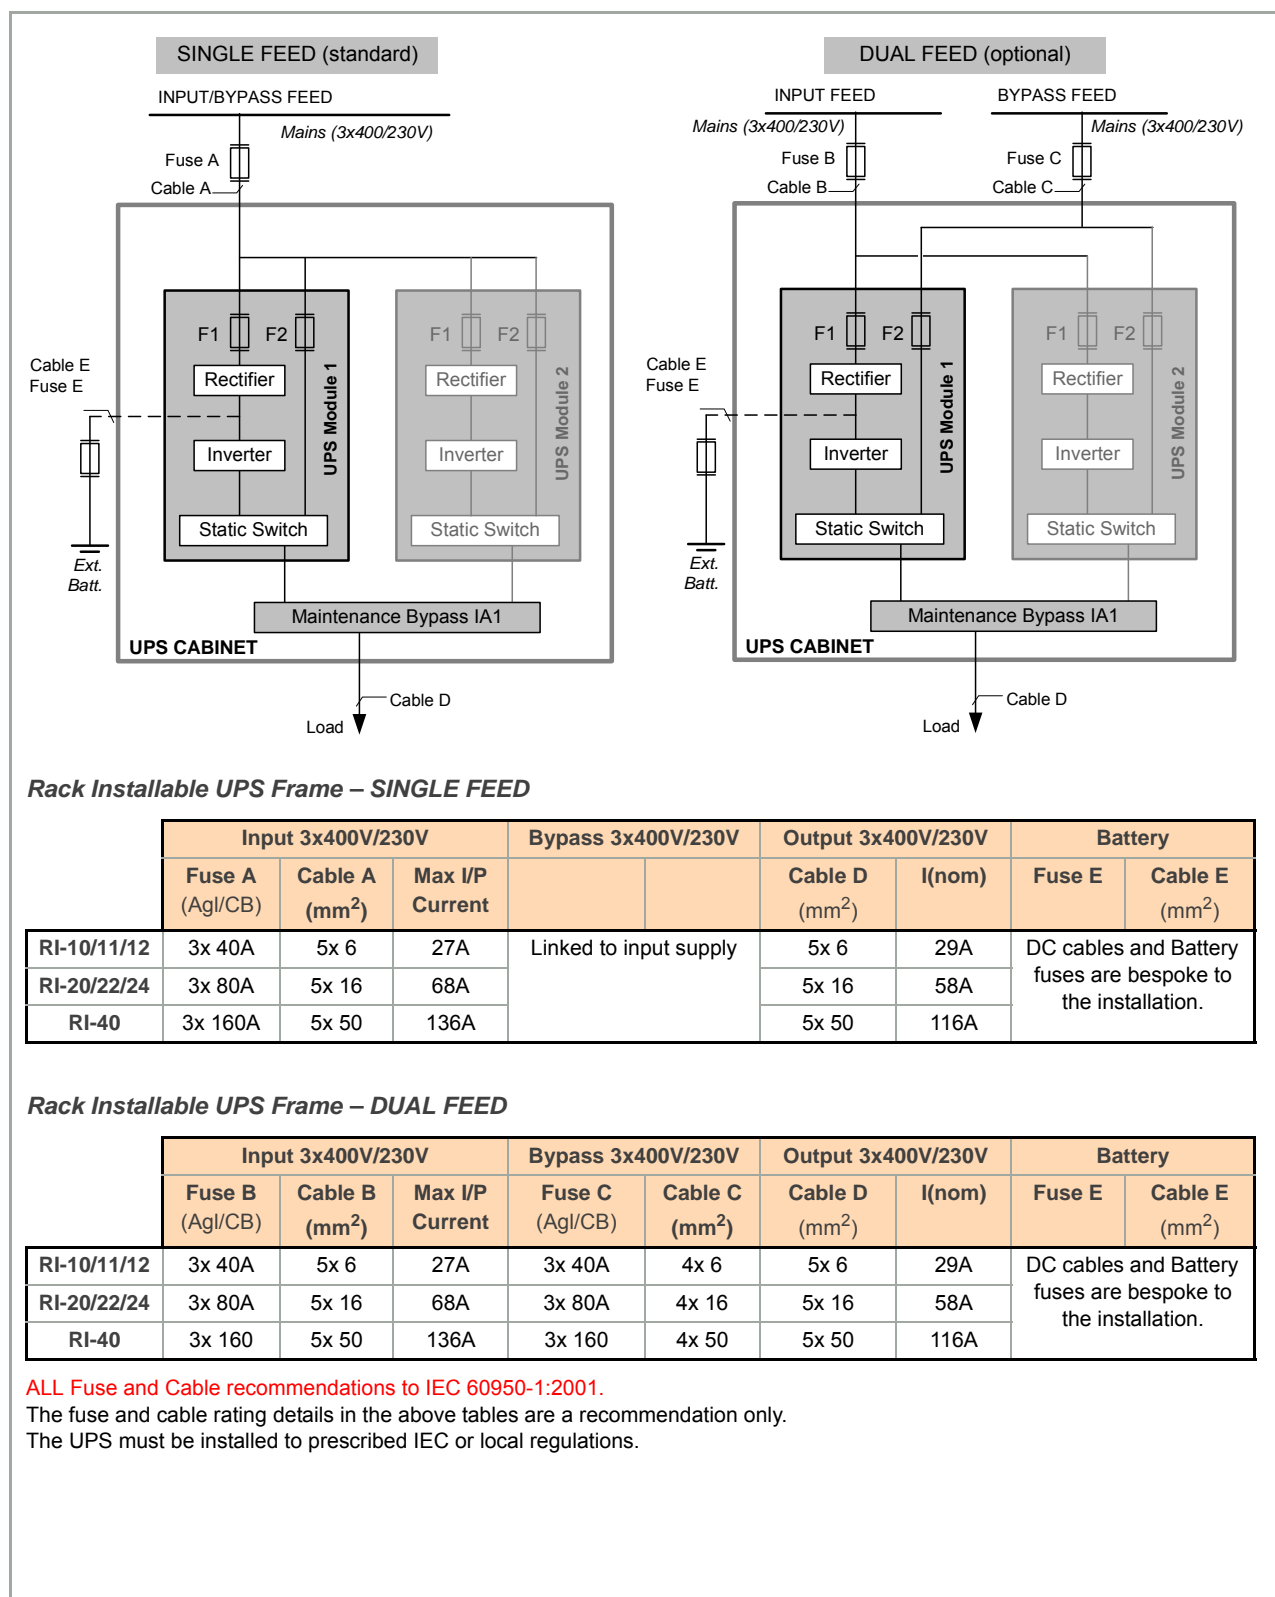

Figure 3.11 PowerWAVE 8000DPA RI fuse & cable rating for single and dual feed supplies
The UPS can be wired with a 'single feed' input (standard), whereby the UPS input supply is connected internally to the UPS bypass circuit; or it can be wired with a 'dual feed' input – where the UPS bypass circuit is connected to a dedicated 'bypass' supply (See Figure 3.11).
Figure 3.11 identifies the UPS input/output cabling requirements and provides information regarding the necessary fuse and cable ratings and cable sizing.
- Ensure that the provided fuses and cables satisfy the ratings shown in Figure 3.11, and are in accordance with the prescribed IEC Standards or local regulations.